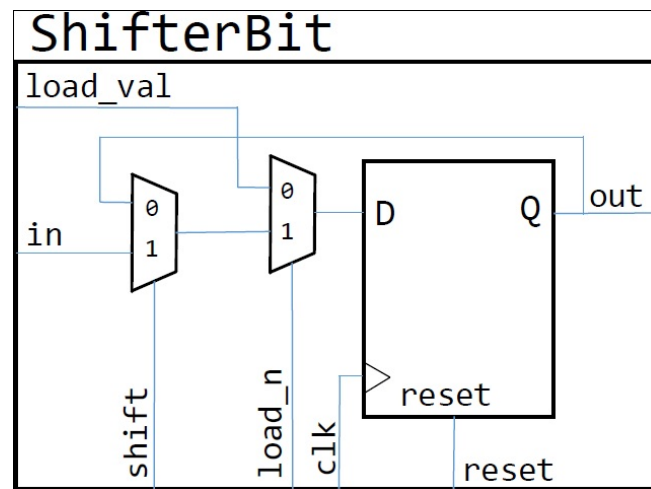
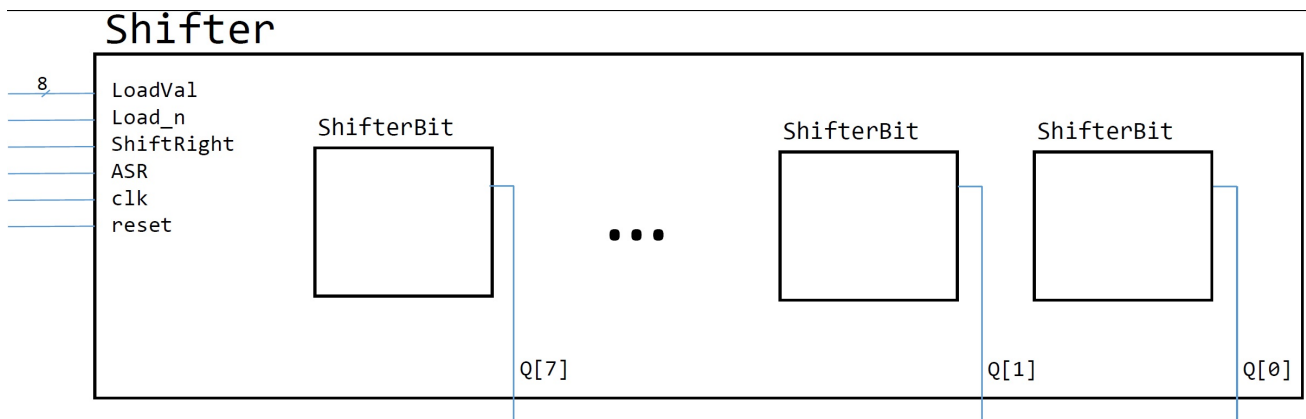

Figure 4.4: Single-bit shift-register
Figure 4.5: 8-bit shift-register of Part III. **None** of internal connections are shown here.
A shift register is a row of flip-flops where each flip-flop moves its contents to the next flip-flop in the row on the rising clock edge. Figure 4.4 shows one bit of this shift register. It contains a positive edge-triggered flip-flop that stores the `ShifterBit`'s current value and two multiplexers that determine the source of the `ShifterBit`'s next value.
To create an 8-bit shift-register, you will need eight instances of the circuit in Figure 4.4. Connect these together to design your 8-bit shift-register with optional arithmetic shift and parallel load as shown in Figure 4.5.
3. The *ShiftRight* input which feeds into the *shift* input of all eight instances of the ShifterBit circuit in Figure 4.4.
For the leftmost ShifterBit, you should design a circuit that will perform sign-extension when the signal *ASR* is high (arithmetic right shift) or load zeros if *ASR* is low (logic right shift). This special circuit is not shown in Figure 4.5.
1. What is the behaviour of the 8-bit shift register shown in Figure 4.5 when *Load_n* = 1 and *ShiftRight* = 0? Briefly explain in your prelab.
2. Draw a schematic for the 8-bit shift register shown in Figure 4.5 including the necessary connections. Your schematic should contain eight instances of the one-bit shifter (i.e. the ShifterBit) shown in Figure 4.4 and all the wiring required to implement the desired behaviour. Label the signals on your schematic with the same names you will use in your Logisim circuit.
3. In a file called `lab4_part3.circ`, add a subcircuit called `shifter_bit`. Starting with the built-in positive edge-triggered D flip-flop found at *Memory > D Flip Flop*, use this D flip-flop with instances of the `mux2to1` module from Lab 2 to build the one-bit shifter shown in Figure 4.4.